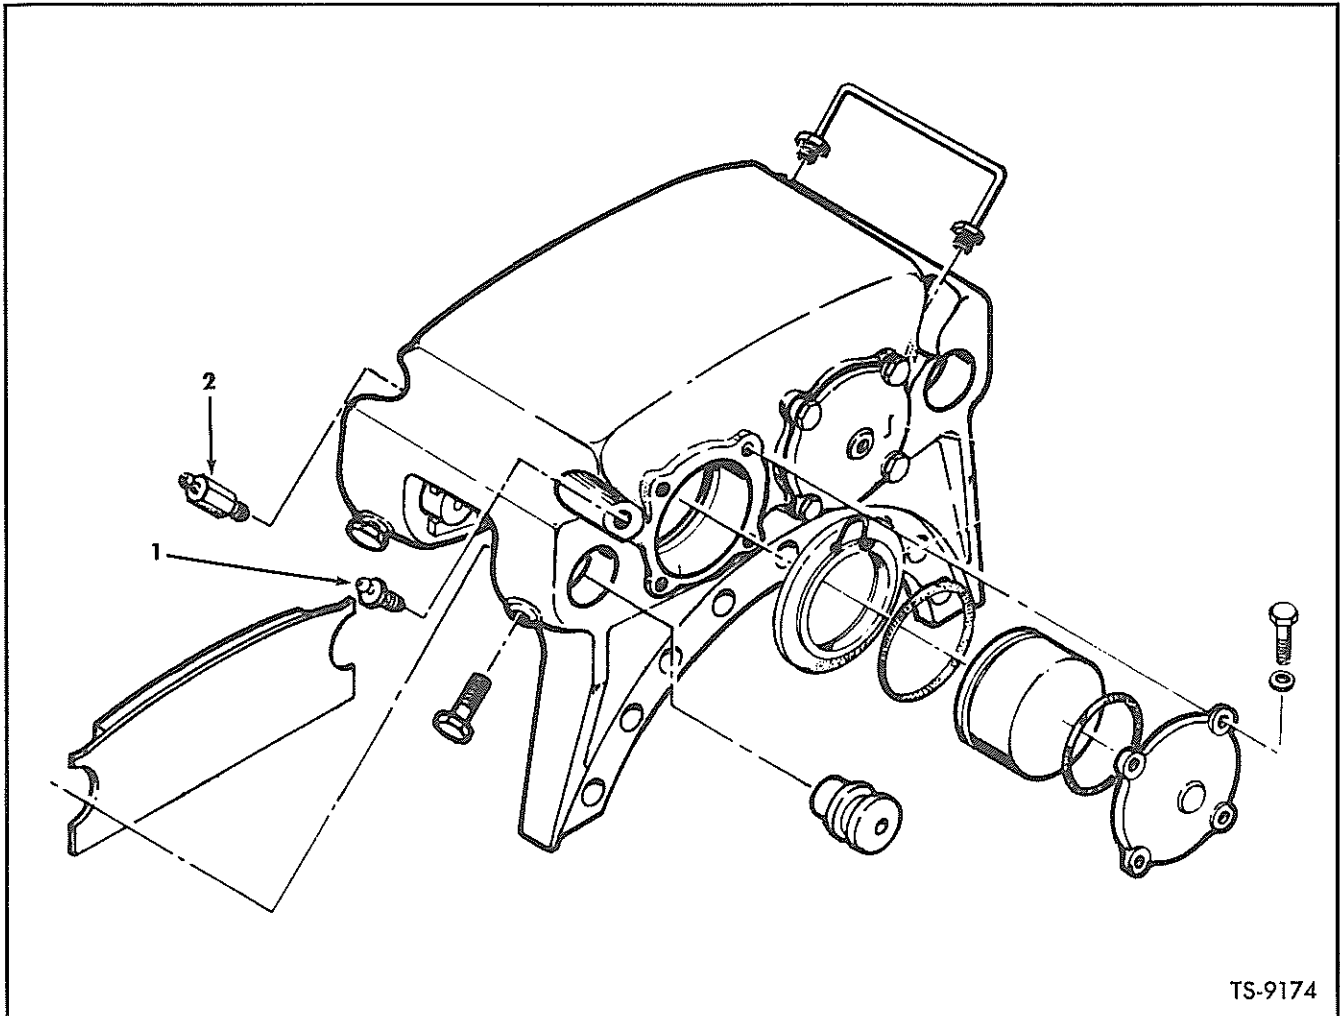

Fig. 33. Brake Head Assembly
1. Open bleeder valve (see Item 1, Figure 33), and actuate brakes several times until fluid coming from bleeder valve is free of bubbles. Depress brake pedal and close bleeder valve, then release brake pedal.
2. Open second bleeder valve (see Item 2, Figure 33). Depress brake pedal several times until fluid coming from bleeder valve is free of bubbles. Depress brake pedal and close bleeder valve, then release brake pedal.